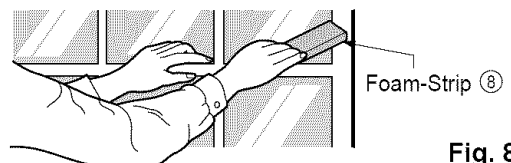

Fig. 8
11. Cut the Foam-Strip ⑧ to the proper length (window width) and insert between the upper window sash and the lower window sash. (See Fig. 8)